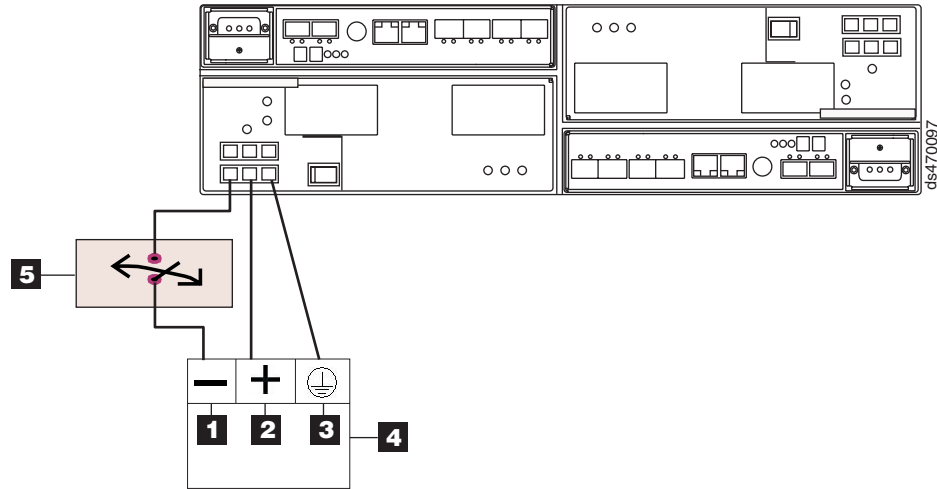

Figure 94. DC wiring from DS4700 Express to disconnect device and DC power source
- Complete the wiring from the disconnect device to the terminal marked -48V of the Reliably grounded safety extra low voltage (SELV) DC power source. Connect the POS RTN and ground lines of the DC power cable to the terminals marked POS RTN and GND on the DC power source, as shown in Figure 94. For maximum protection against power loss, connect each of the two DC power supplies to a different power source.